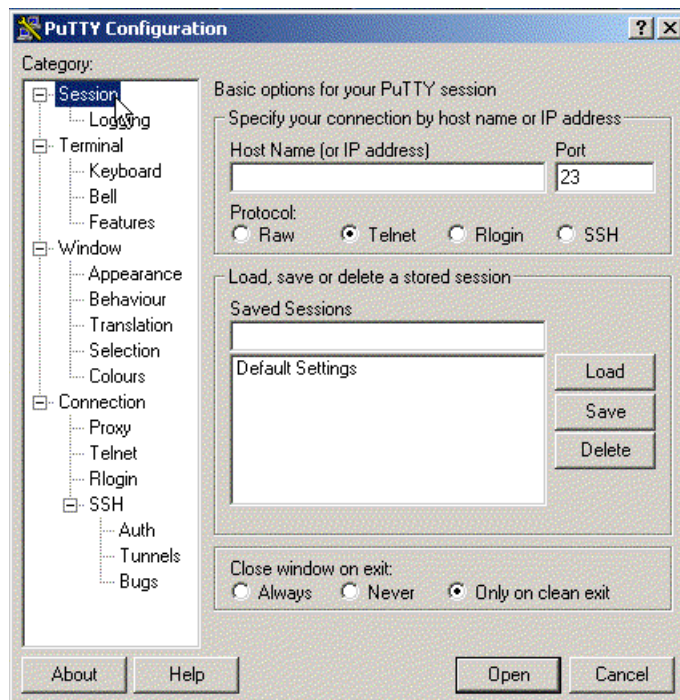

Figure 5-1 PuTTY Configuration window
2. On the PuTTY Configuration window (Figure 5-1), from the Category panel on the left, click **Session**.